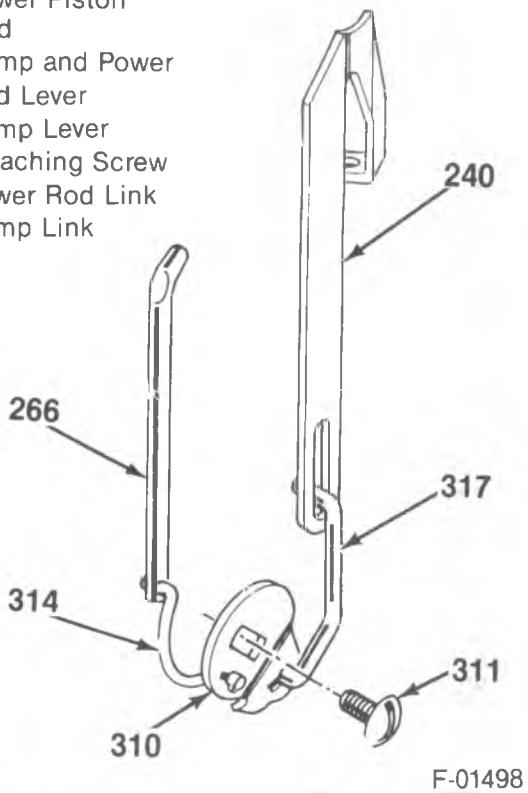

Figure 35 - Pump and Power Piston Linkage
- Pump assembly (246), with new pump plunger cup (247), and spring (248), (if not installed for pump system check).
- Pump return spring (252) in pump well.
- New pump rod seal (242) over boss on float bowl.
- Pump assembly (246) and pump rod (240).
**Assemble (Figure 35)**
- Pump link (317) and power rod link (314) to pump and power rod lever (310) as shown in Figure 35.